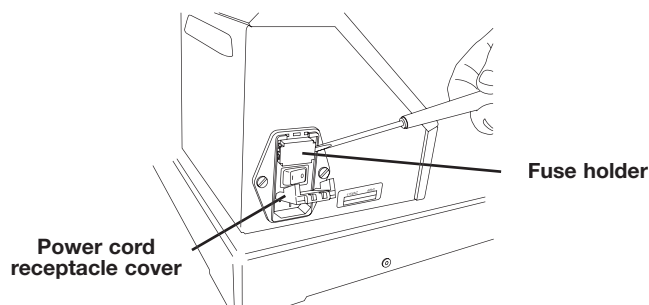

Fig. 20
3. Gently pry the fuse holder from the cord receptacle. See Fig. 20.